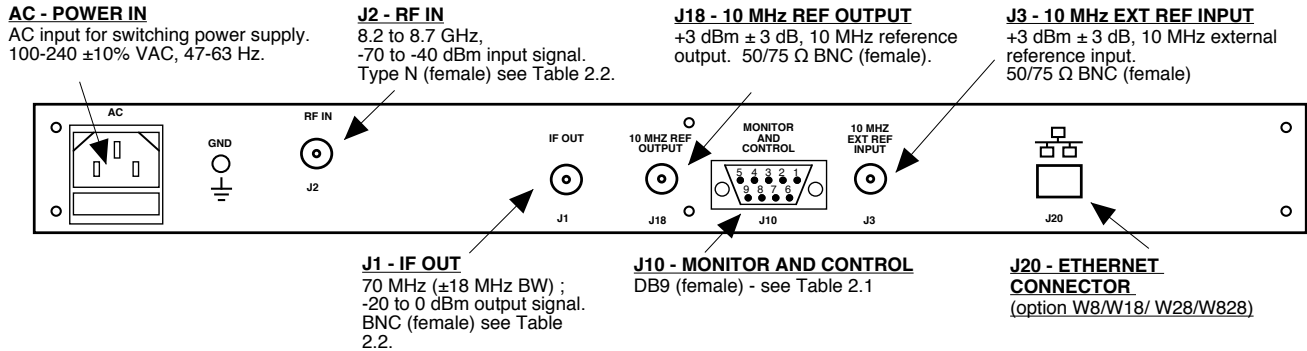

FIGURE 2.2 2016-8287 Rear Panel I/Os
Figure 2.2 shows the input and output connectors on the rear panel.
1. Connect a -70 dBm to -40 dBm signal to RF IN, J2 (Figure 2.2)